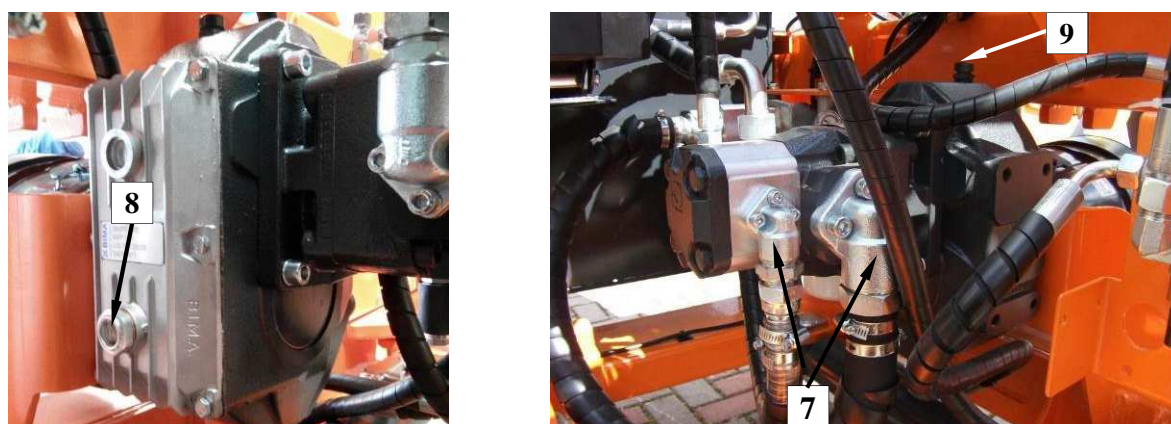

Fig. 56. Mounted multiplier with pump set
Tightness of connections and oil level in multiplier should be examined as well as tightness of connection of hoses to pumps (7) (Fig. 56). This activity should be performed at least once a week.